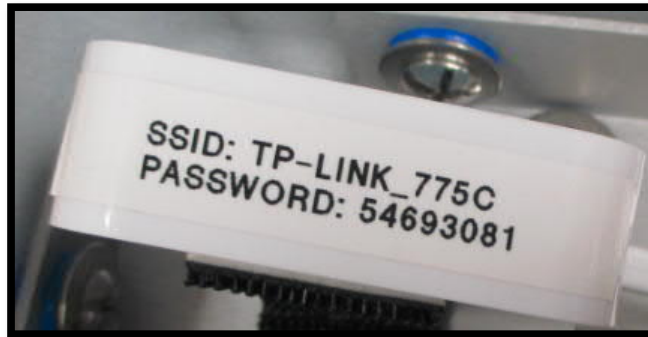
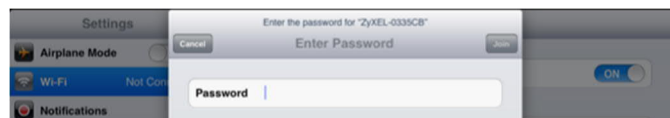

Figure 58: Router SSID and Password Location
Figure 72: Router Connection Screen
1. Using a phone, tablet, or laptop, connect to the router using the SSID and password on the router. (Figure 58)
2. Connect to the wireless SSID network listed on the router sticker. Enter the TP-Link wireless router (example: TP-LINK-775C) as shown in Figure 58.
4. Enter the wireless password printed on the router sticker. (Figure 58) Every router has a different, unique SSID number, and wireless password.
2. Connect to the wireless SSID network listed on the router sticker. (Figure 58) Enter the TP-Link wireless router. (example: TP-LINK-775C)
4. The *Enter Password* screen appears. (Figure 72) In the Password field, enter the wireless password on the router sticker. (Figure 58)